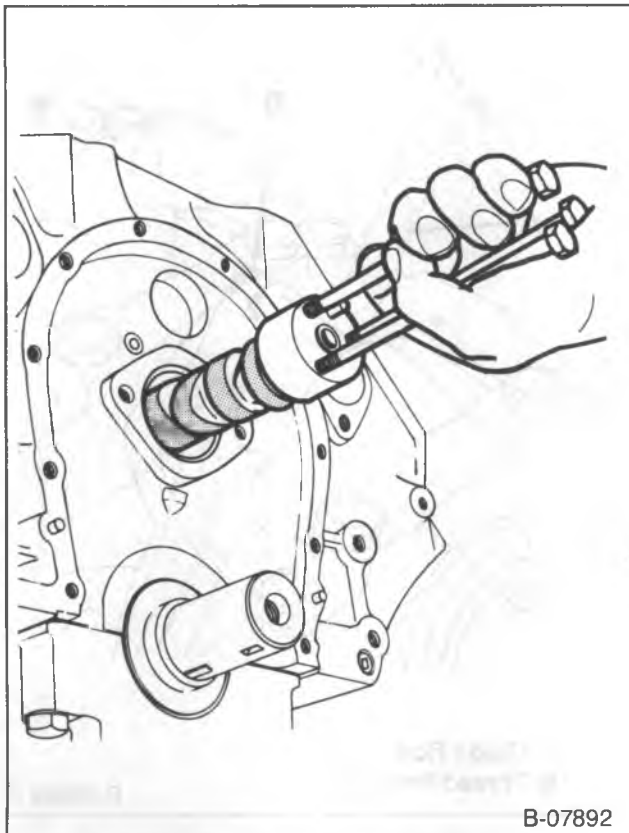

Figure 30—Installing the Camshaft
2. Camshaft to the engine (figure 30). Handle the camshaft carefully to prevent damage to the camshaft bearings.
3. Thrust plate (87) and screws (88).